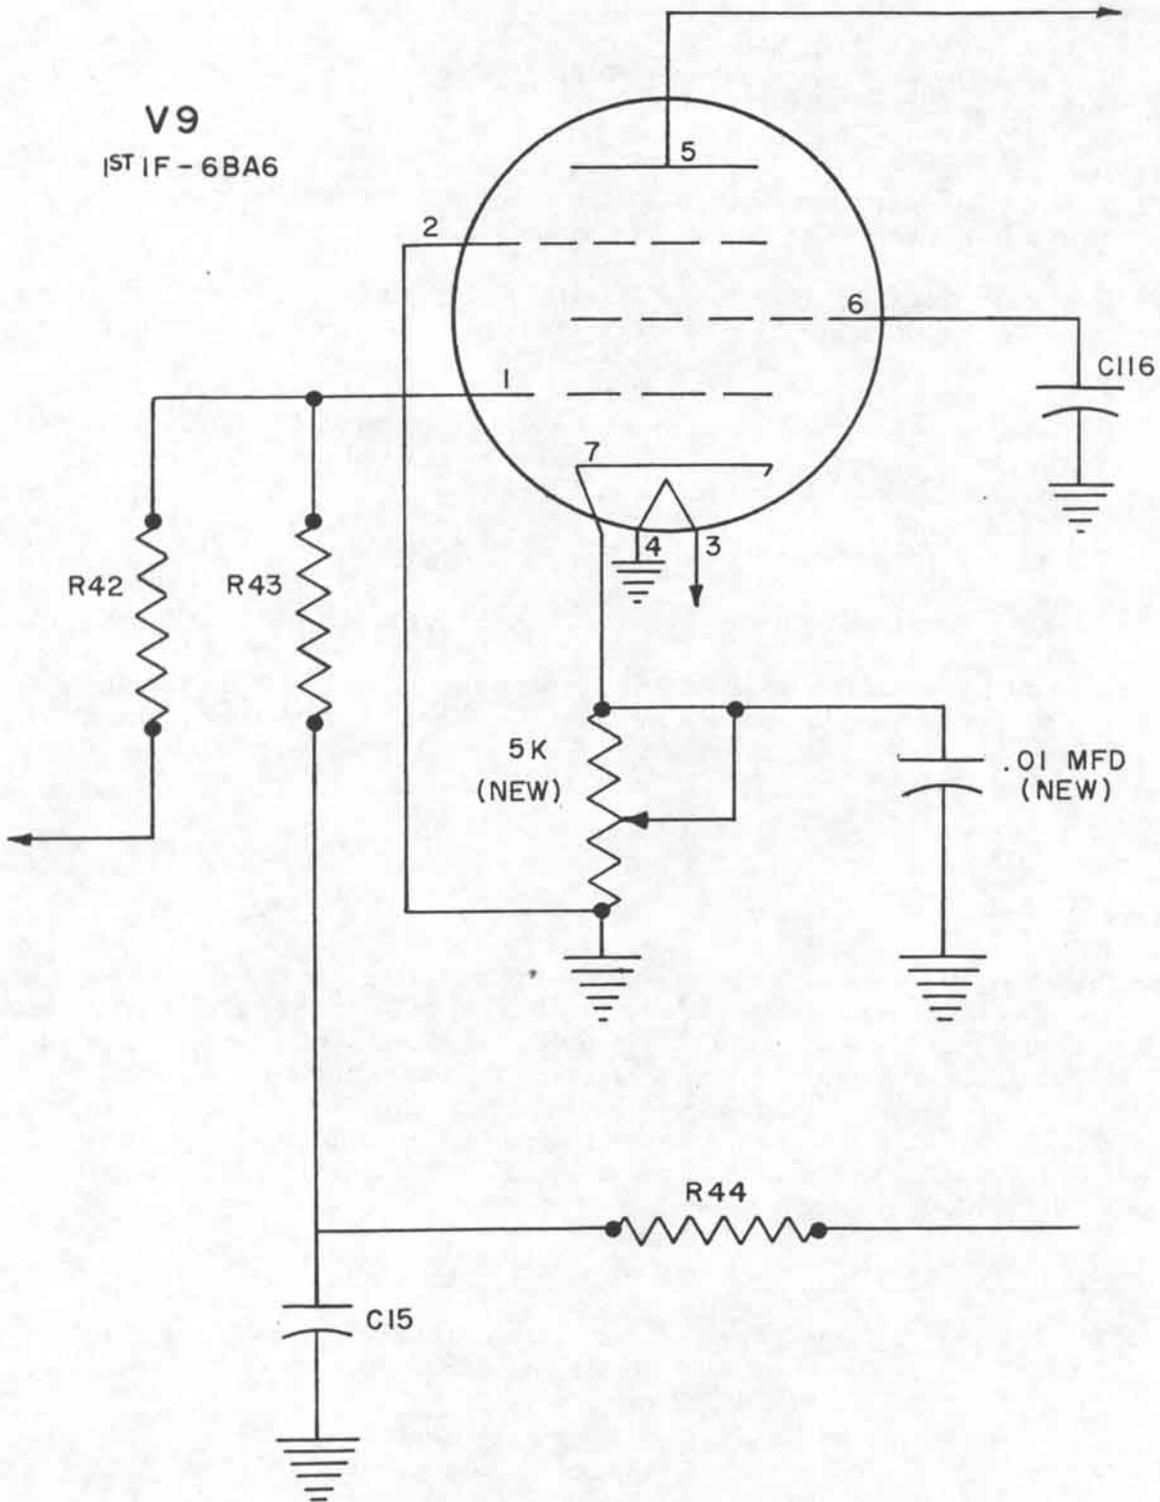

Figure 3. Schematic Diagram of Modification to IF Stage
(13) Solder all connections.
(14) Check the modification against Figure 3.